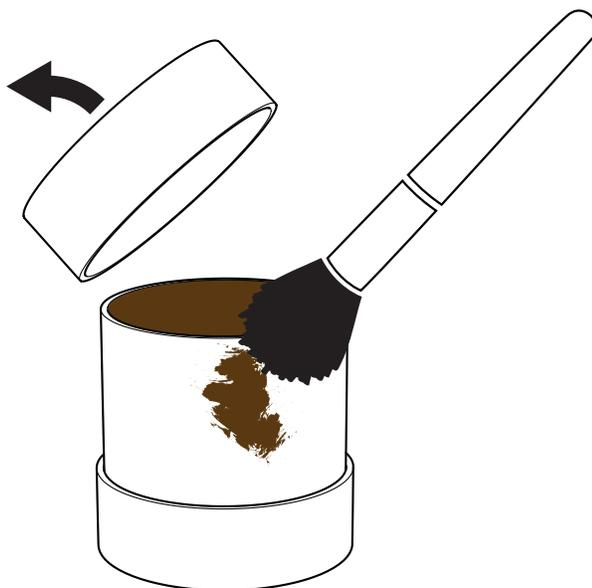

Figure 19 Remove lid and clean sealing area
2. Remove the lid from the sample ring on the non-cutting side and clean the sealing area thoroughly (Figure 19).